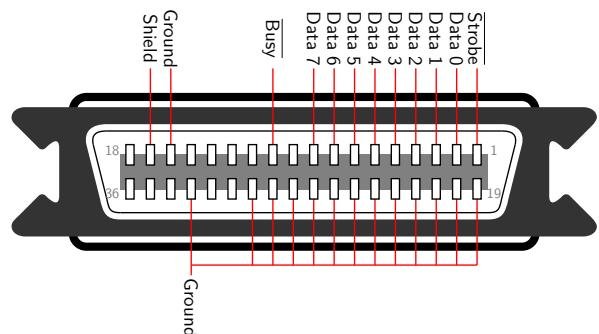

Figure 3.3: Centronics male connector (solder side).
1. Solder the pins of the male Centronics connector as shown in Figure 3.3. Note that the pin numbers shown in the diagram are for the solder side of the connector.